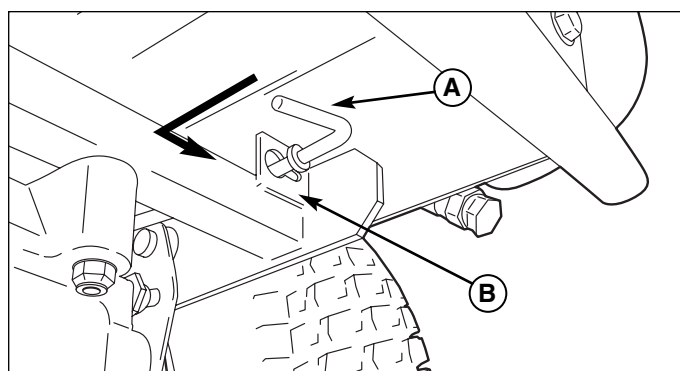

Figure 2. Roll Release Components (On Each Side)
2. To disengage the transmissions (free-wheel position), push the roll release rods (A, Figure 2), located under the rear of the unit behind each transmission, in toward the transmission until the collar on the neck of each rod passes through the keyhole in the roll release plate, then lock the rod in the roll release position by sliding the rod sideways into the keyhole slot.